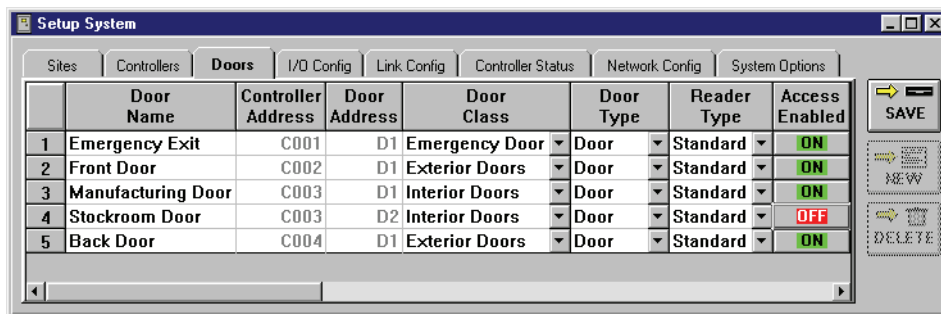

Figure 3-22: Disabling/Enabling Access Through a Door
- The resulting window should look similar to Figure 3-22.